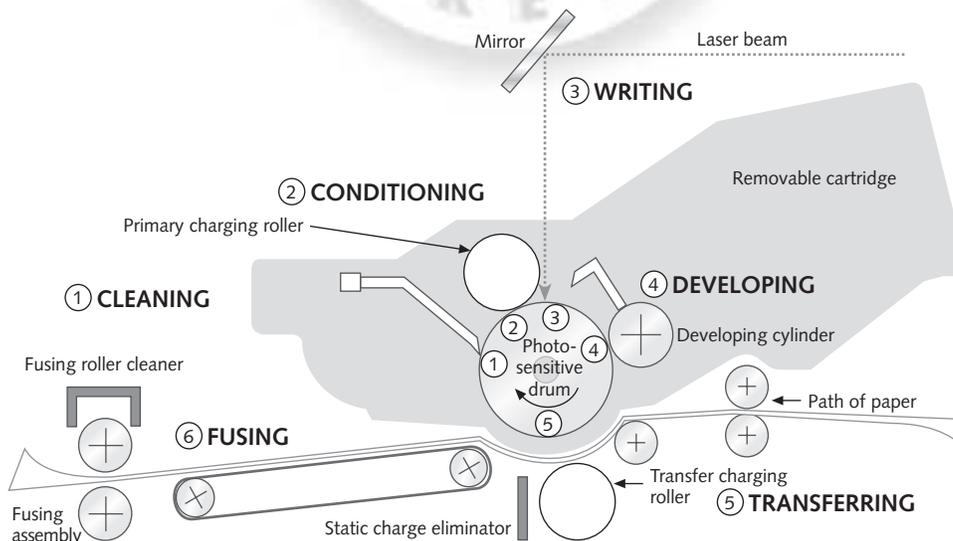

Figure 18-1 The six progressive steps of laser printing
1. Using Figure 18-1 as a guide, identify each component in the disassembled laser printer cartridge, and describe its function on the lines provided.